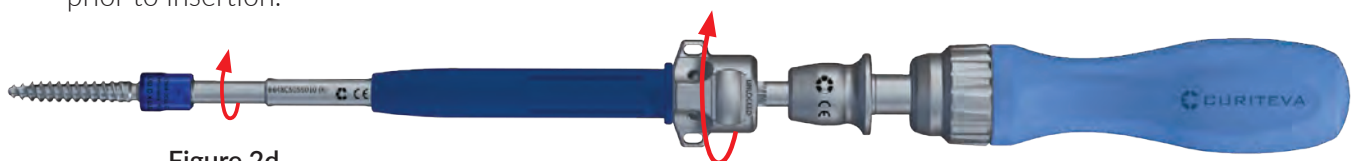

Figure 2d
- Select the desired Pedicle Screw diameter and length. Insert the distal tip of the Pedicle Screw Driver into the tulip, seating the hexalobe into the screw shank. (Figure 2d)